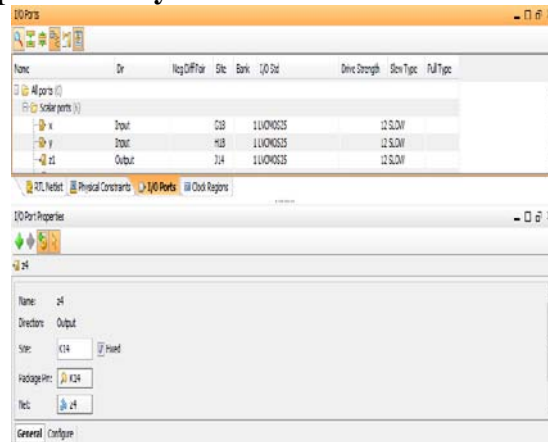

Figure 4: I/O Port Menu
Step 10: A new program (RTL Design) will start (be patient). Navigate to the **scalar ports** menu in the **I/O Ports** tab. This can be seen in figure 4. Select “x” and set the site to G18. Click Apply. Continue by setting “y” to H18, “z1” to J14, “z2” to J15, “z3” to K15, and “z4” to K14. The Ports should be defined as seen in figure 5. If everything looks correct click **File->Save Project**.